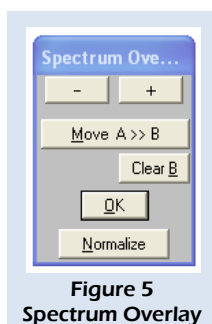

Figure 5 Spectrum Overlay
*Spectrum Overlay* (Figure 5) enables the user to display two spectra at the same time.